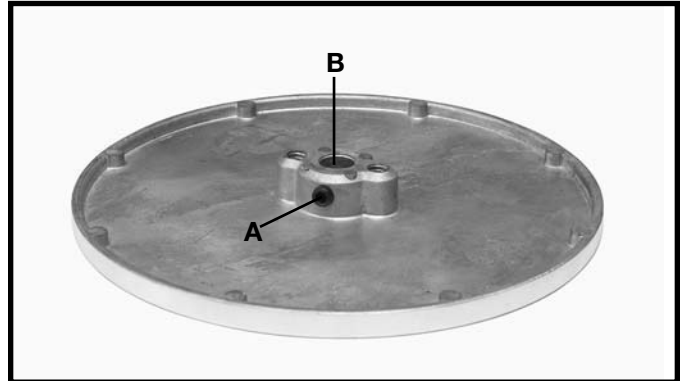

Fig. 6
1. Back the 1/4-20x1/4" hex socket set screw (A) Fig. 6, out of the hole, just enough so that the set screw is not extending into hole (B) Fig. 6, in the sanding plate.